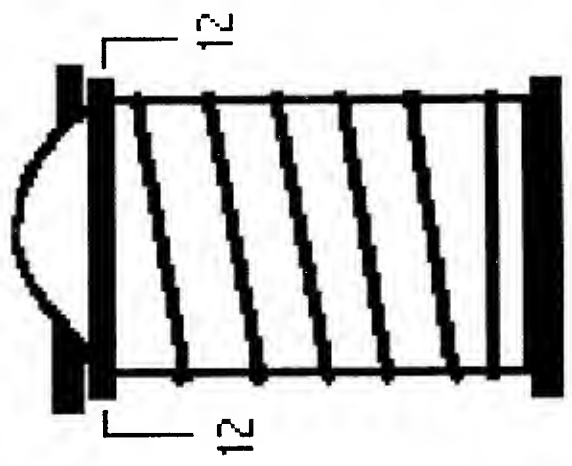

FIG. 6
- Fig 6 shows new configuration of spark plug ~~(tip)~~ ^A TERMINAL after ~~(assembly)~~ BEING ASSEMBLED